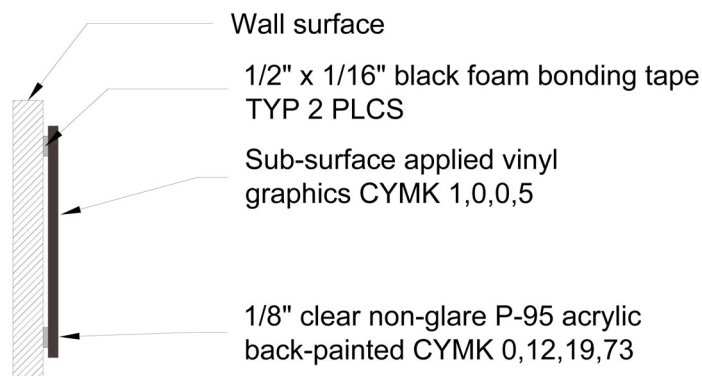

Figure 13.8
13.8. UMD B.2 sign cross section shall comply with figure 13.8